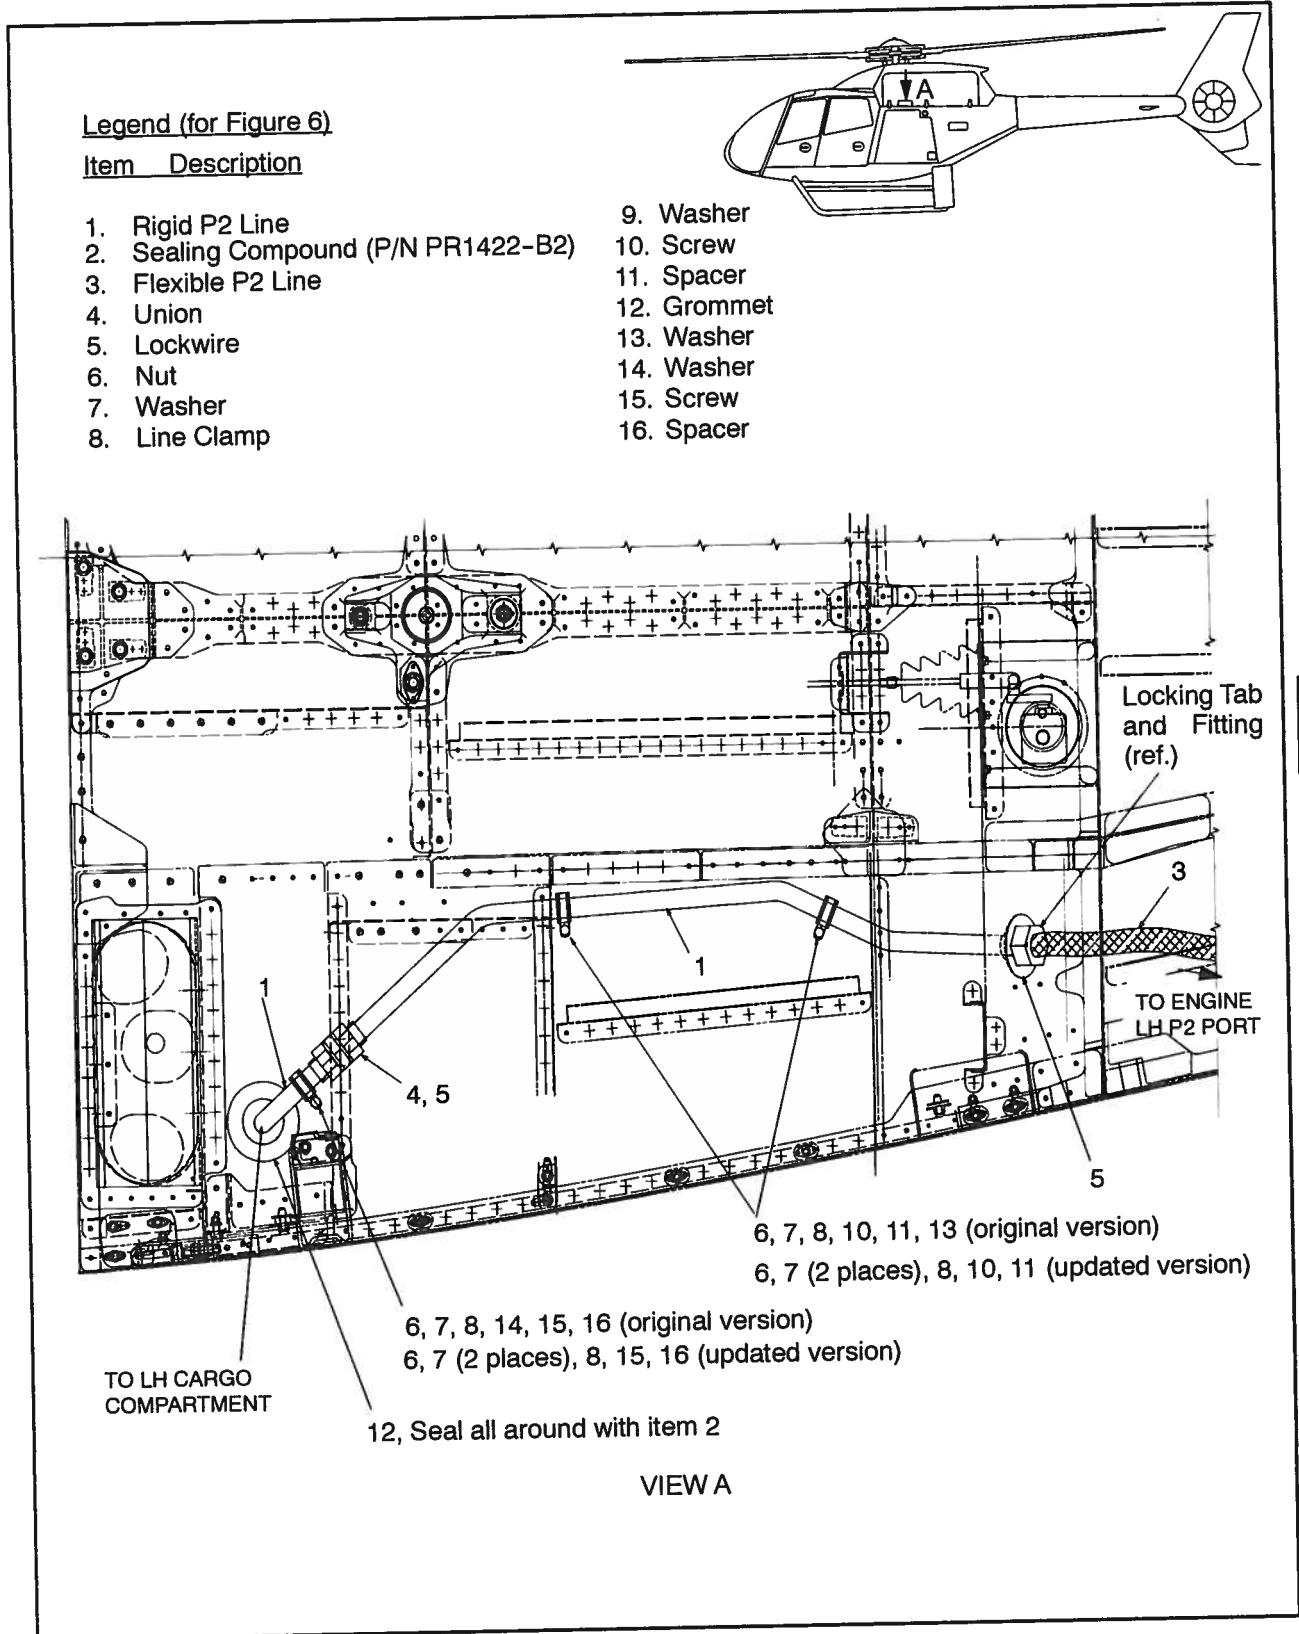

Figure 6 Transmission Deck
- a) Remove screws (10), nuts (6), washers (7) (2 places, updated version only), washers (13) (original version only), and spacers (11) from both line clamps (8) on the rigid P2 line (1) on the transmission deck. Remove both line clamps (8).
- b) Remove lockwire (5) from locking tab in the fire wall fitting and disconnect the rigid P2 line (1).
- c) Remove lockwire (5) from union (4). Disconnect the rigid P2 line (1).
- d) Carefully remove the rigid line (1) from the transmission deck.
3) LH Side Cargo Compartment (Refer to Figures 6, 7 and 8)
- a) Remove screw (15), nut (6), washer (7), washer (14) (original version only), and spacer (16) from line clamp (8) on transmission deck FWD of the union (4). Refer to Figure 6.
- a) Attach new gasket (11) and flexible P2 line (3) to LH P2 engine port and secure using washers (6), bolts (7) and lockwire (5). Torque bolts (7) to 0.4 to 0.5 m. daN (35.4 to 44.2 in.lb.).
- b) Secure other end of flexible P2 line (3) to fitting in the fire wall. Apply lockwire (5) to locking tab and flexible P2 line (3).
- c) Attach flexible P2 line (3) to existing fuel line using two line clamps (10). Secure line clamps using bolt (9), washer (8) and nut (2).
- d) Secure flexible P2 line (3) at STN 4956 using line clamp (10), spacer (4), screw (13) washer (12), washer (15), and nut (14).
- 2) Transmission Deck (Refer to Figure 6)
- a) Connect rigid P2 line (1) to the fitting in the fire wall and to the union (4) on the transmission deck.
- b) Secure rigid P2 line (1) to transmission deck using two line clamps (8). Secure line clamps (8) (2 places) to the deck using screws (10), spacers (11), washers (7) (2 places), washers (13) (original version only), and nuts (6).
- c) Apply lockwire (5) to the locking tab in the fire wall fitting and the rigid P2 line (1).
- 3) LH Side Cargo Compartment (Refer to Figures 6, 7 and 8)
- a) Route rigid P2 line (1) from cargo compartment through grommet (12) on transmission deck and down through grommet (7) in cabin floor. Refer to Figure 6.
- c) Secure rigid P2 line (1) to transmission deck using line clamp (8) screw (15), nut (6), washer (7) (2 places), washer (14) (original version only), and spacer (16). Refer to Figure 6.